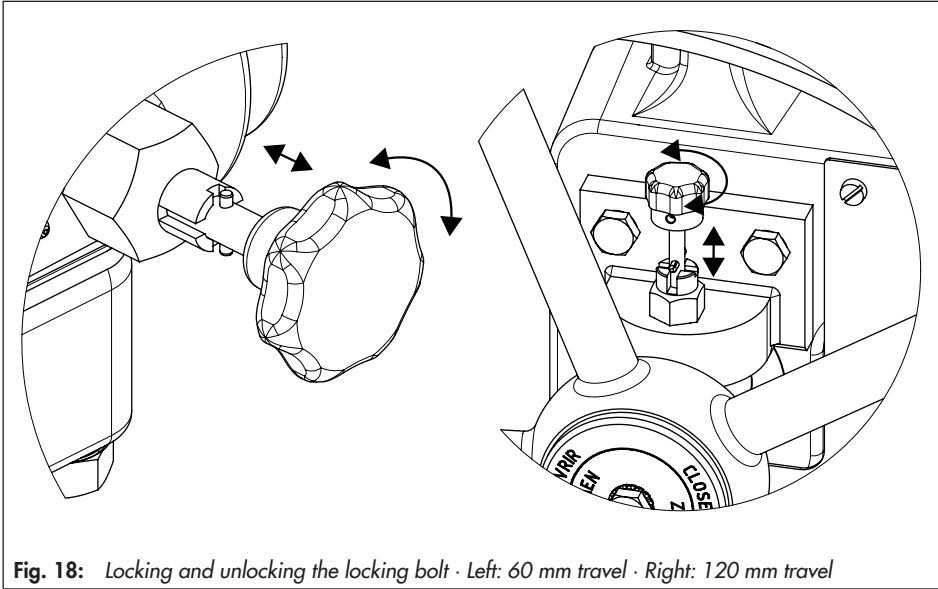

Fig. 18: Locking and unlocking the locking bolt · Left: 60 mm travel · Right: 120 mm travel
1. To change from automatic to manual operation, unlock the handwheel. Pull the locking bolt and turn it 90° to unlock the handwheel (see Fig. 18).
4. Lock the handwheel. Turn the locking bolt by at least 90° until it engages again to lock the handwheel (see Fig. 18).
1. Pull the locking bolt and turn it 90° to unlock the handwheel (see Fig. 18).
3. Turn the locking bolt by at least 90° until it engages again to lock the handwheel (see Fig. 18).